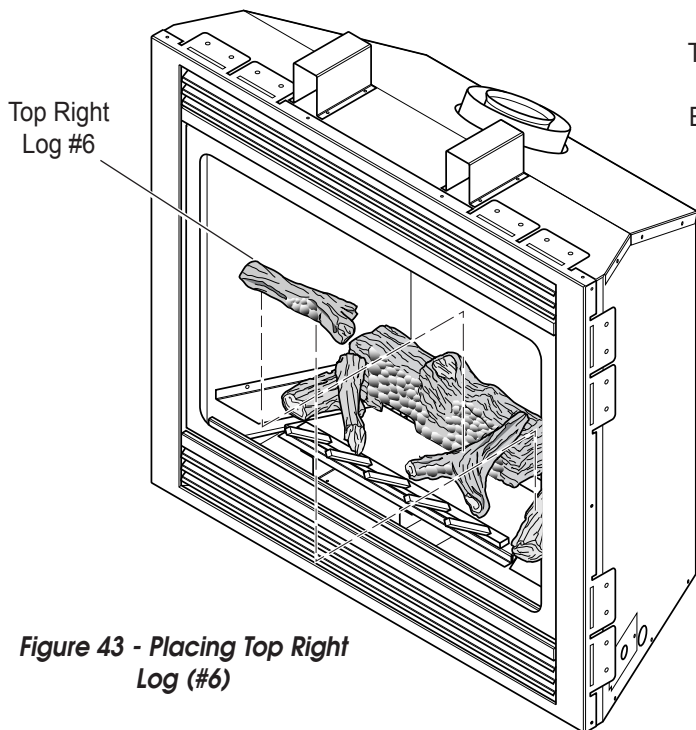

Figure 43 - Placing Top Right Log (#6)
- Place top right log (#6) across bottom center log and right bottom log as shown in *Figure 43*.